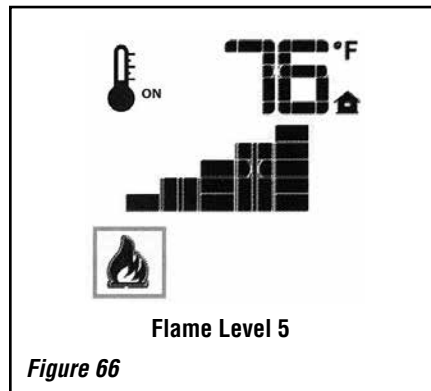

Figure 66
The system has six (6) flame levels. See **Figure 66 (next page)** for an example. With the system on, and the flame level at the maximum in the appliance, pressing the DOWN Arrow Key once will reduce the flame height by one step until the flame is turned off.